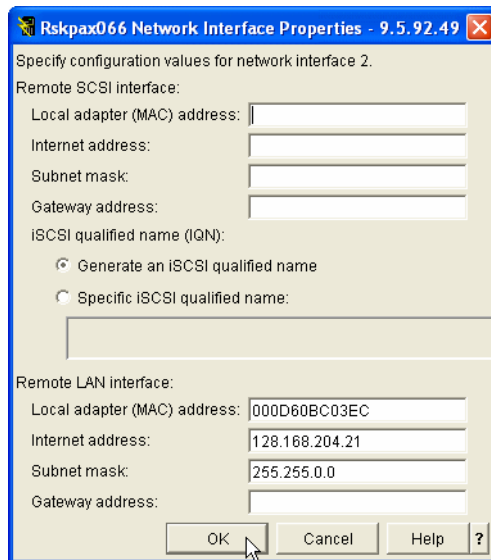

Figure 9-73 Disabling the SCSI side of an initiator HBA port - 2
6. Blank out the Remote SCSI interface IP addressing information as shown in Figure 9-73 on page 446. Be careful not to disable the boot port!